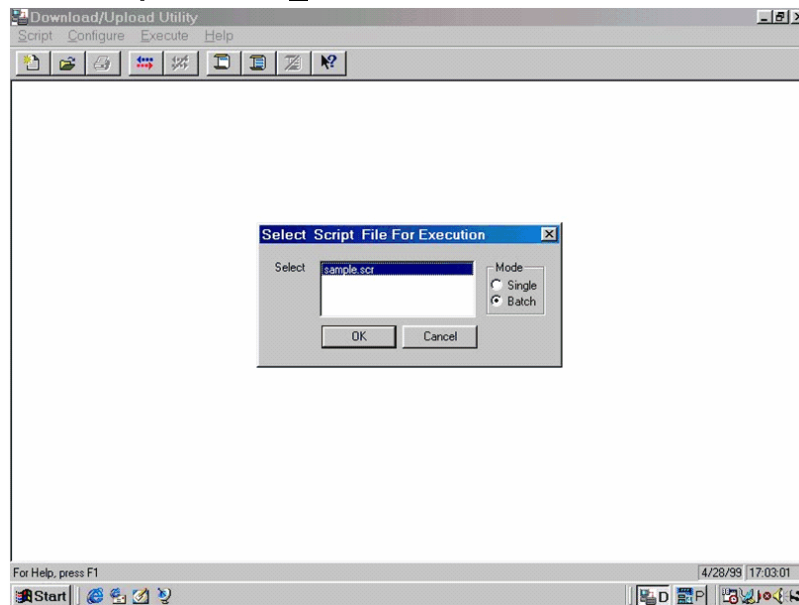

Fig. 2.17
2. Select the required .scr file and click **OK** button. See Fig. 2.17.